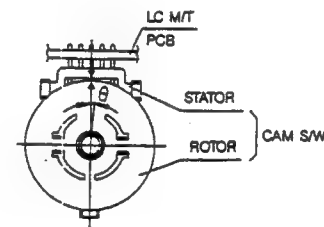

Fig. 1-6 Reference of assembly for the Cam Switch
- 4) Make sure of the position of the Cam Switch when assembling the L/C BRKT Total Ass'y (refer to Fig. 1-6).